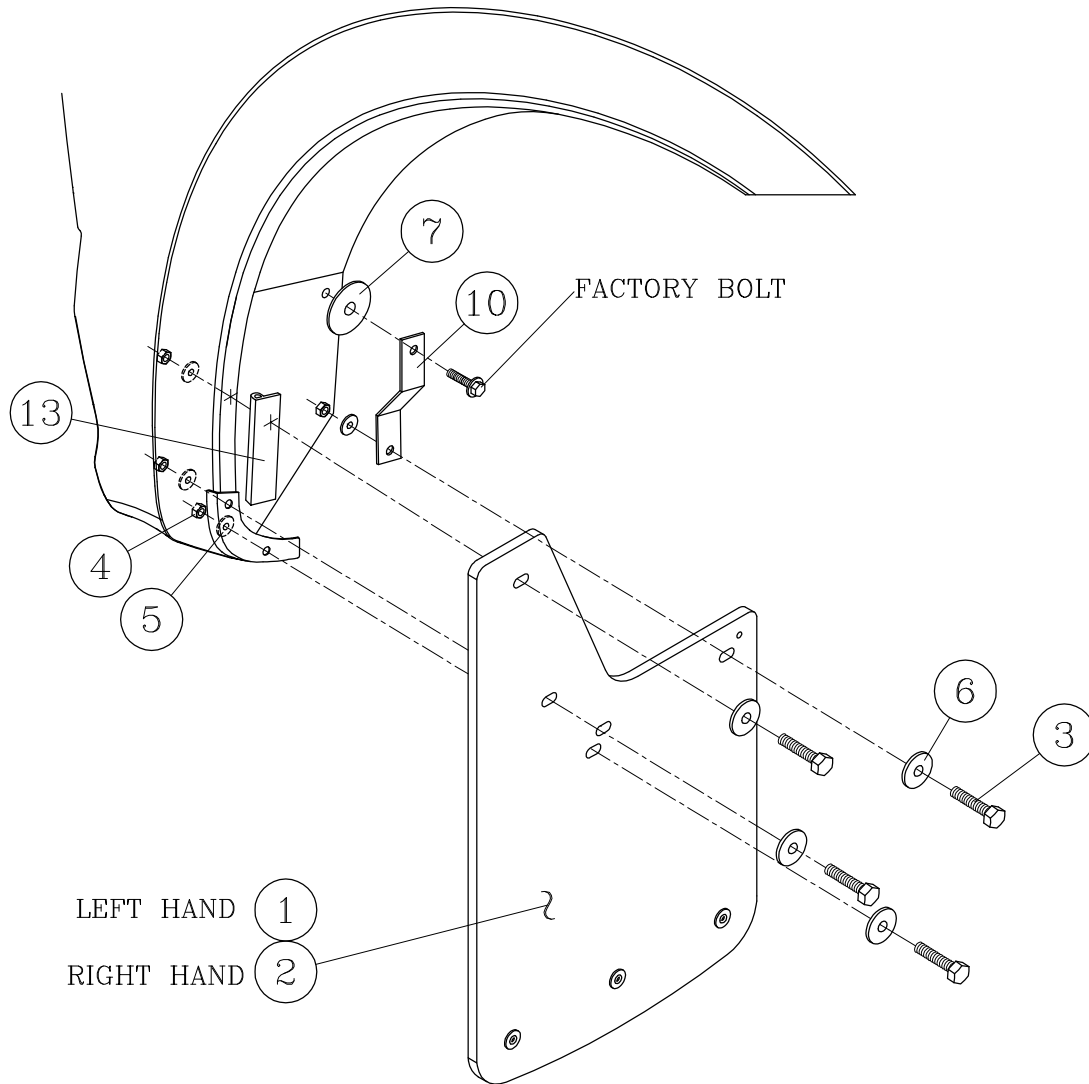

FIG. 2
MOUNTING 251520 / 251523 MUD GUARDS ON THE REAR OF THE VEHICLE. (SEE FIG. 2)
11. REMOVE THE FACTORY SPLASH GUARD BOLT AND INSTALL A .360" X 1.5" NYLON WASHER (ITEM #7) AND THE SUPPORT BRACE (ITEM #10) AS SHOWN IN FIGURE 2.
12. USING TWO 1/4-20 X 1.5" ALUMINUM HEX HEAD SCREWS (ITEM #3), TWO 1/4" X 1" BLACK FENDER WASHERS (ITEM #6), TWO 1/4" ALUMINUM WASHERS (ITEM #5), AND TWO 1/4-20 ALUMINUM LOCK NUTS (ITEM #4) ATTACH THE MUD GUARD TO THE FENDER AS SHOWN IN FIGURE 2.
13. USING A 1/4-20 X 1.5" ALUMINUM HEX HEAD SCREW (ITEM #3), A 1/4" X 1" BLACK FENDER WASHER (ITEM #6), TWO 1/4" ALUMINUM WASHERS (ITEM #5), AND A 1/4-20 ALUMINUM LOCK NUT (ITEM #4) ATTACH THE MUD GUARD TO THE SUPPORT BRACE AS SHOWN IN FIGURE 2.
15. POSITION THE 5.5" FOAM RUBBER BULB SEAL (ITEM #13) AGAINST THE BODY OF THE VEHICLE SO THAT THE BULB PORTION IS FACING THE OUTSIDE OF THE VEHICLE AS SHOWN IN FIG 2. PLACE THE BULB SEAL ALL THE WAY DOWN AGAINST THE TOP OF THE FACTORY ROCK GUARD, AND ADJUST THE BULB SEAL SO THAT IT FOLLOWS THE CONTOUR OF THE FENDER.
17. USING A 1/4-20 X 1.5" ALUMINUM HEX HEAD SCREW (ITEM #3), A 1/4" ALUMINUM WASHER (ITEM #5), A 1/4"-1" BLACK FENDER WASHER (ITEM #6), AND A 1/4-20 ALUMINUM LOCK NUT, ATTACH THE MUD GUARD TO THE FENDER AS SHOWN IN FIGURE 2.